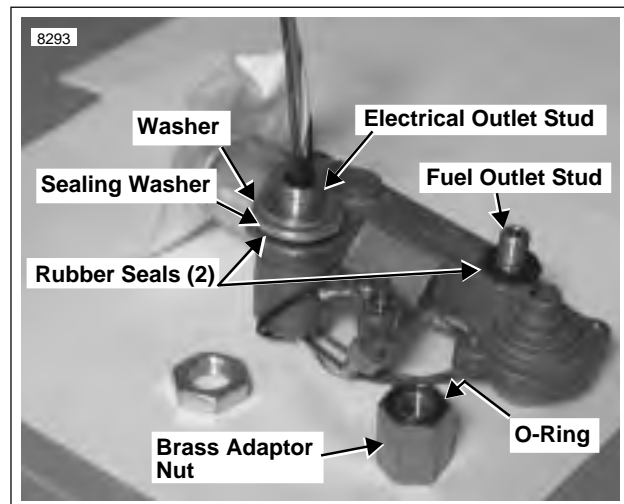

Figure 4-99. Rubber Seals and Washers
1. See Figure 4-99. Check rubber seals on electrical and fuel outlet studs that go through tank.